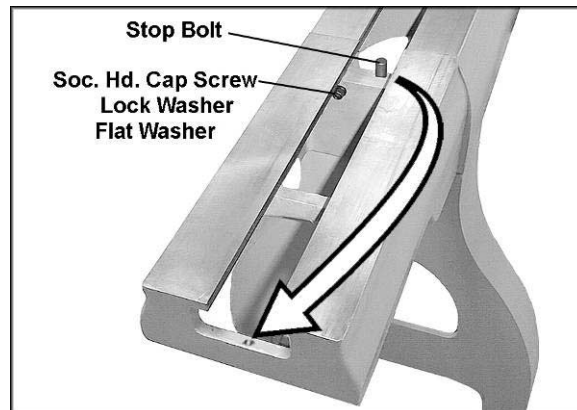

Figure 7
2. Have an assistant hold the bed extension flush to the end of the Lathe bed, and insert three 3/8 x 1-3/4 socket head cap screws, three 3/8 lock washers and three 3/8 flat washers, through the holes in the bed extension into the threaded holes on the Lathe. See Figure 7.
6. Unscrew the stop bolt from the Lathe bed (Figure 7), and screw it into the hole at the end of the bed extension.